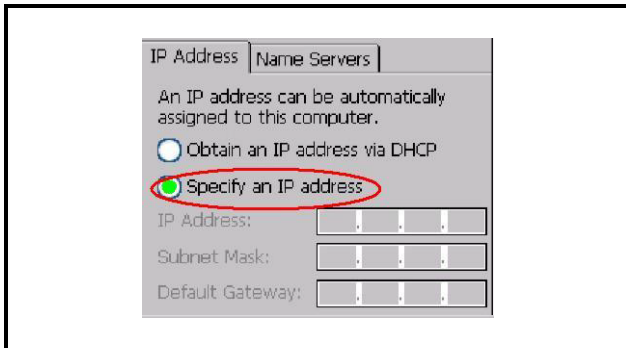

Figure 3-3 - IP Address Tab
6. From the **IP Address** tab, (*Figure 3-3*) choose **Specify an IP address**. (If using a Hostname for E2 instead of an IP Address,